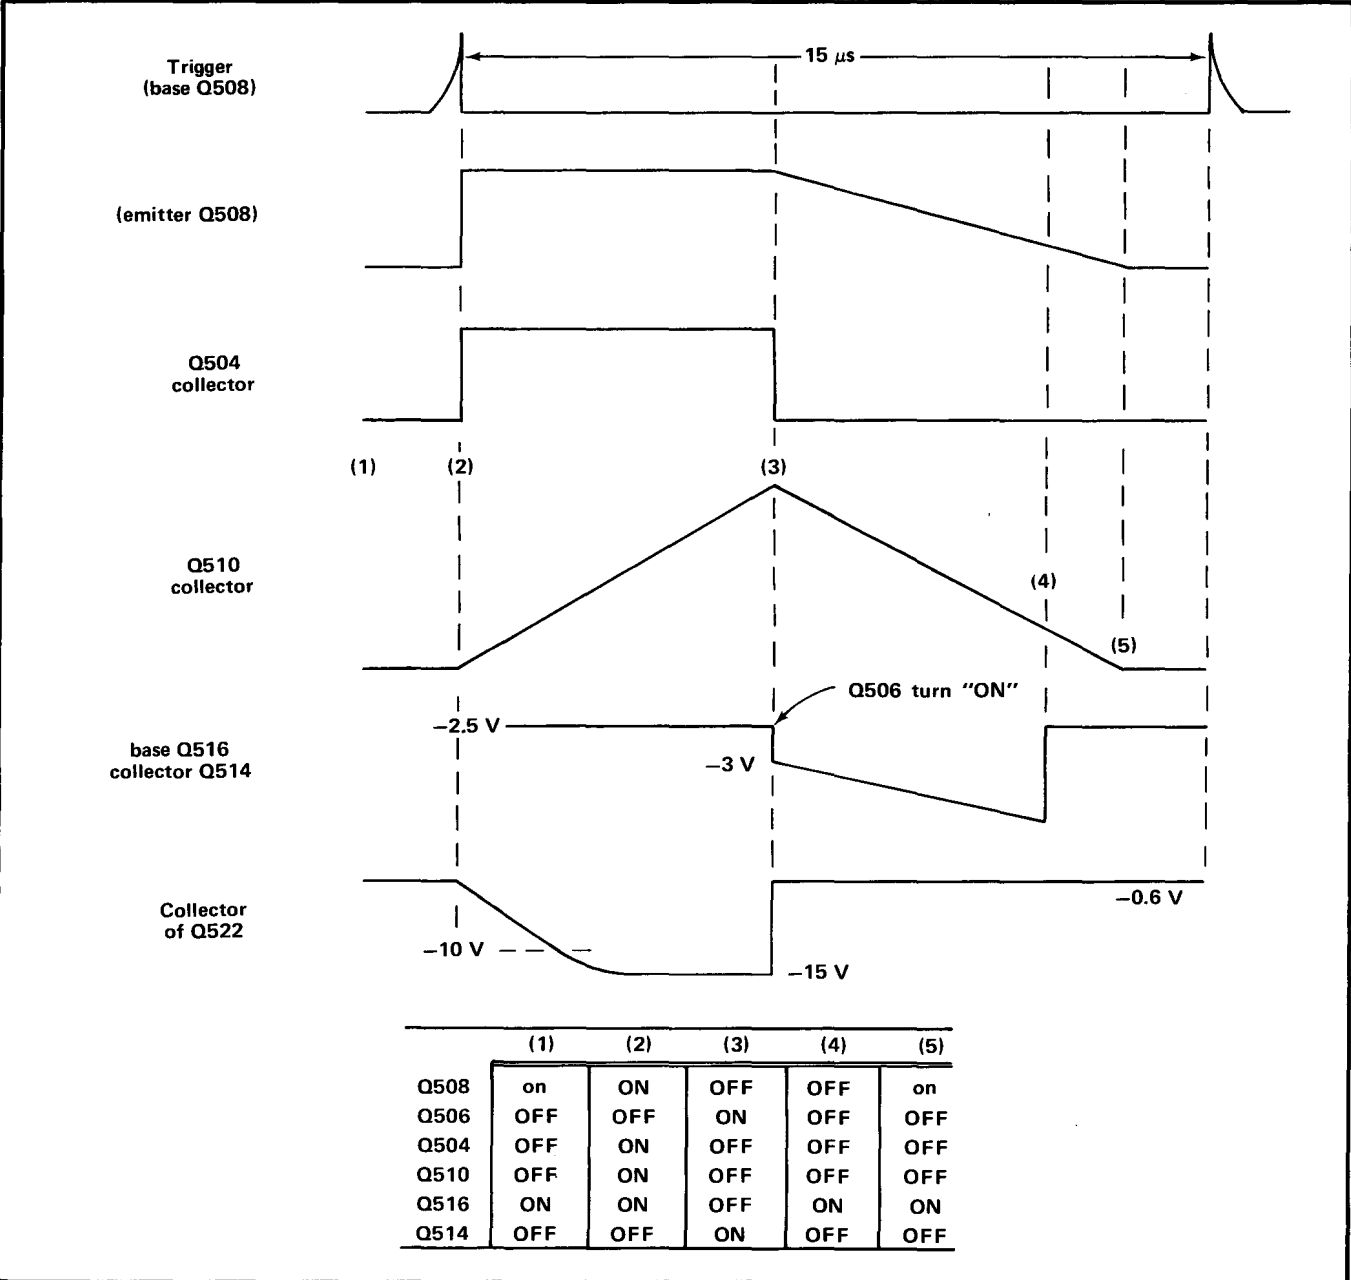

Fig. 3-11. Transistor signal waveforms and conduction levels table for the Trigger Circuit and the Trigger Holdoff.
3-11. Reference to this information will aid in understanding the sequence of events in the Trigger and Trigger Hold-off Circuits. Transistor Q508 conducts at all times, but has two conducting levels. In the table portion of Fig. 3-11, the low current state (about 0.33 mA) is indicated using small letters ("on") and heavy current conduction by capital letters "ON".
Prior to the arrival of the trigger pulse from the S-series head (time 1), the state of transistors in the Trigger and Trigger Hold-off circuits is shown in the table portion of Fig. 3-11. Looking down the column headed (1) shows that
When a trigger is applied to the base of Q508 (time 2 on Fig. 3-11) current through Q508 increases due to the presence of capacitor C508.